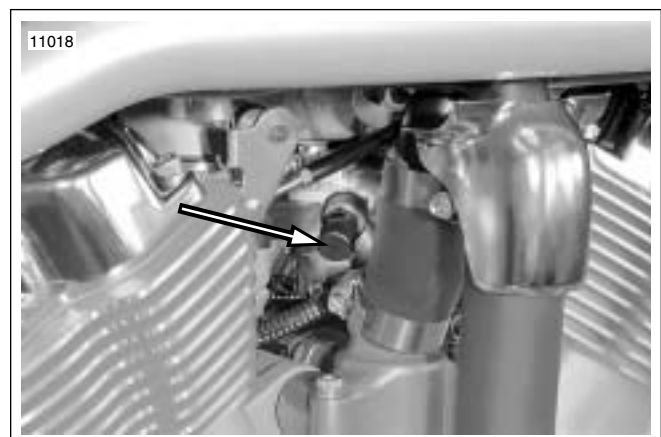

Figure 8-103. Schrader Valve Location
5. See Figure 8-103. Remove protective cap from Schrader valve in fuel metering assembly.